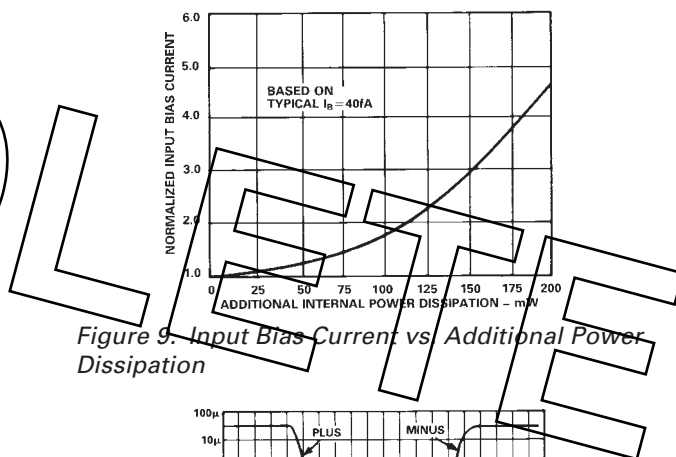

Figure 9. Input Bias Current vs. Additional Power Dissipation
- Output loading effects, which are normally ignored, can cause a significant increase in chip temperature and therefore bias current. For example, a 2 kΩ load driven at 10 V at the output will cause at least an additional 25 mW dissipation in the output stage (and some in other stages) over the typical 24 mW, thereby at least doubling the effects of self-heating. The results of this form of additional power dissipation are demonstrated in Figure 9, which shows normalized input bias current versus additional power dissipated. Therefore, although many dc performance parameters are specified driving a 2 kΩ load, to reduce this additional dissipation, we recommend restricting the load resistance to be at least 10 kΩ.